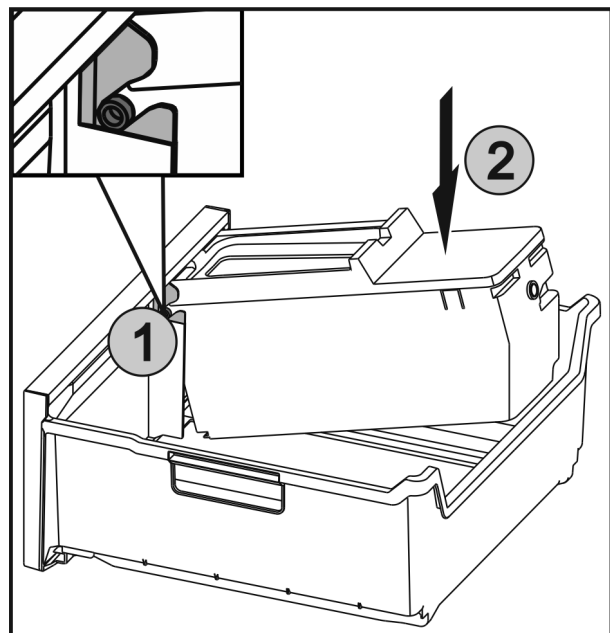

Fig. 41
- ▶ Insert the axles Fig. 41 (1) on the EasyTwist-Ice in the guides and push the rear side Fig. 41 (2) until the lug engages.